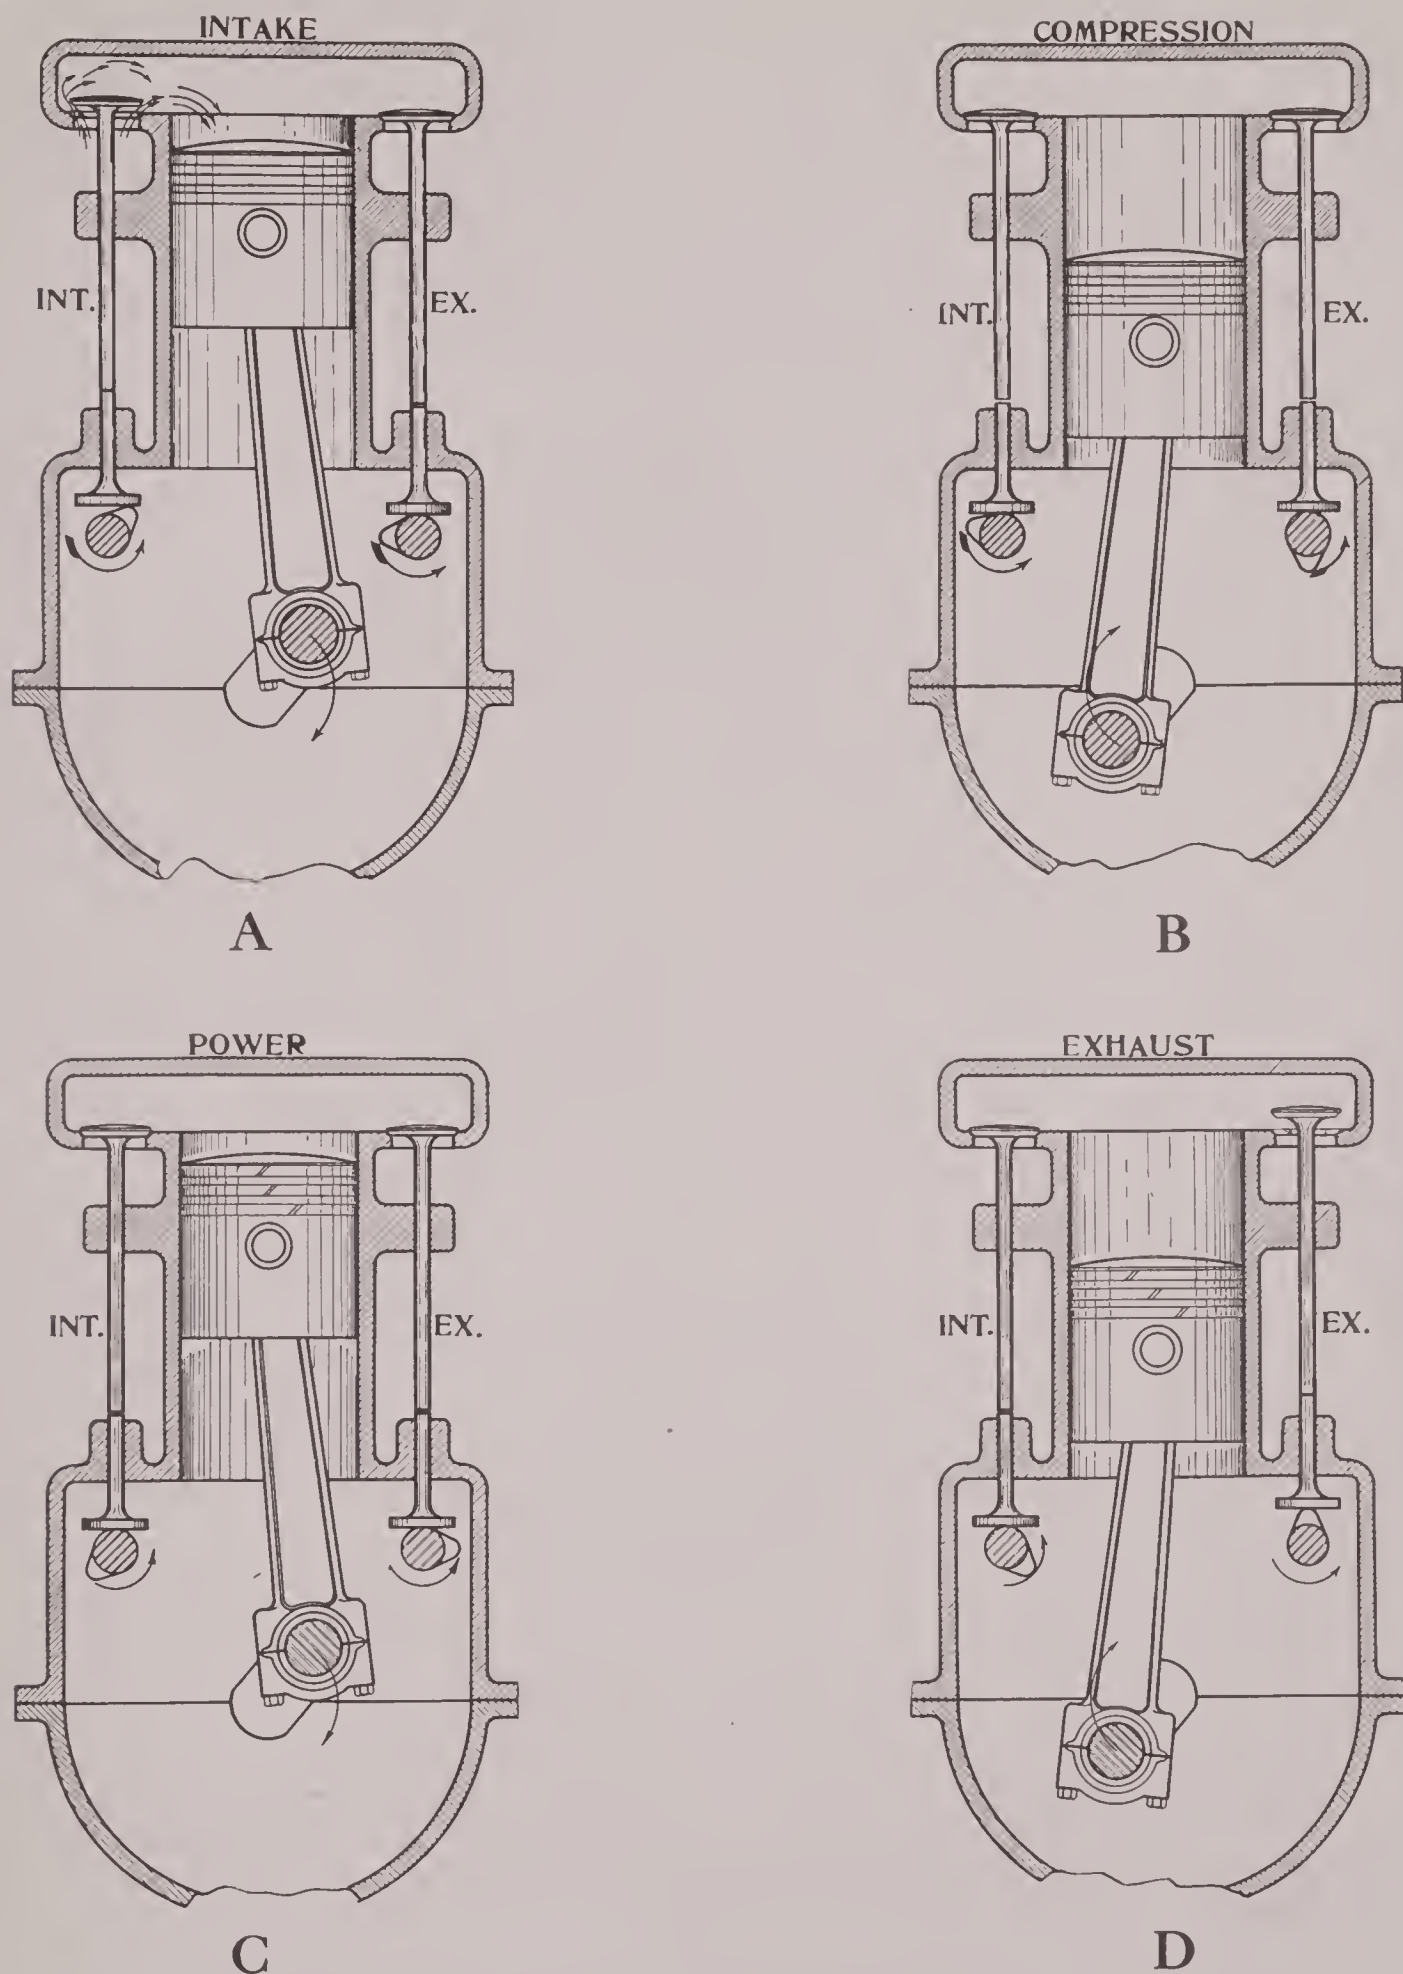

FIG. 4.
Fig. 4 shows the positions of the principal parts of the engine in these four strokes. At (A) on the intake stroke, the piston is moving downward carried by the momentum of the flywheel or power applied to crankshaft; the exhaust valve is closed and the inlet valve open. The downward movement of the piston causes